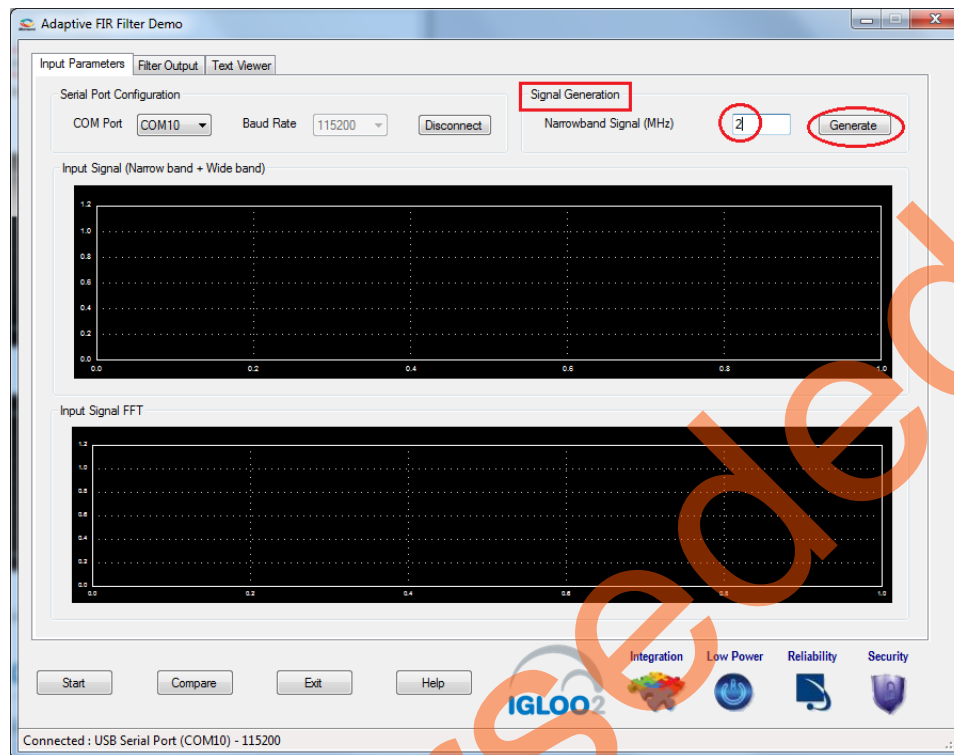

Figure 14 • Signal Generation
3. **Signal Generation:** Enter the narrow band signal frequency as 2 MHz (supported range is 1 MHz and 20 MHz), and click **Generate**. Refer to Figure 14.